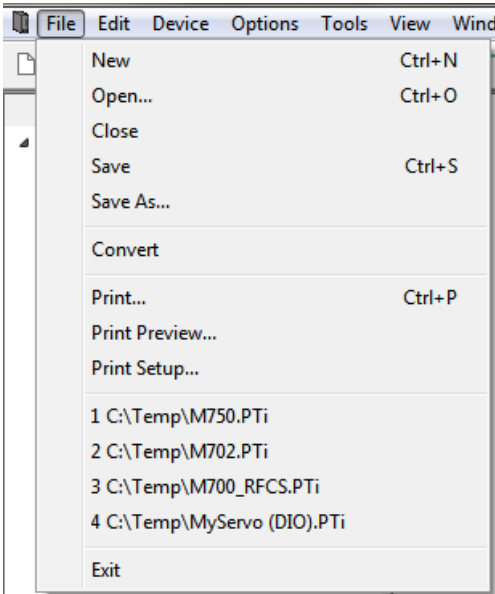

Figure 4-4: File Menu
- Press ALT and press the underlined letter in the menu name. Then press the underlined letter in the option name. For example, to open a new configuration file, press ALT and press F to open the File menu. Then press N for New, see Figure 4-4.
The **File** menu on the menu bar contains many different options for file handling (i.e., opening, closing, saving, and printing files, etc.). Figure 4-4 below shows the **File** menu expanded.